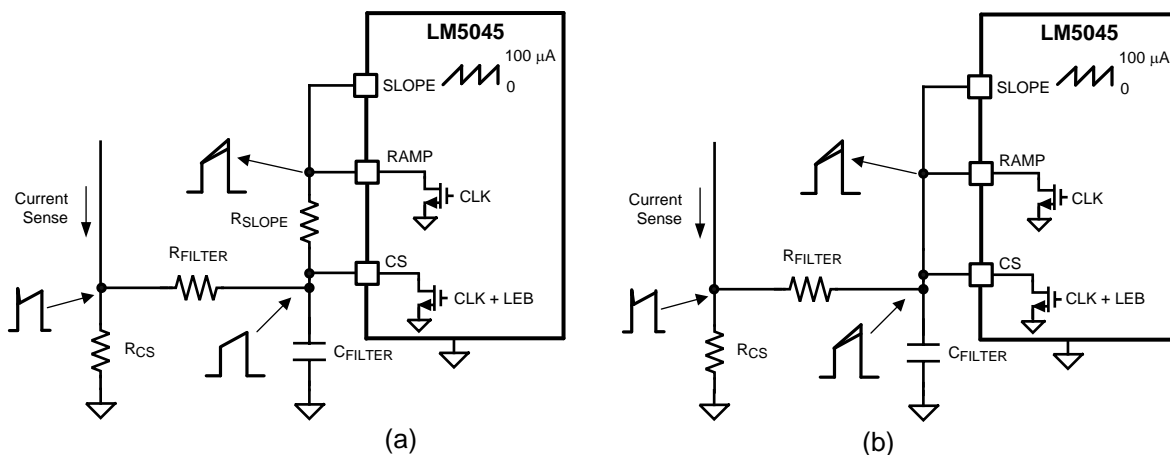

Figure 4. Slope Compensation Configuration
1) As shown in Figure 4(a), the SLOPE and RAMP pins can be connected together through an appropriate resistor to the CS pin. This configuration will inject current sense signal plus slope compensation to the RAMP pin but CS pin will not see any slope compensation. Therefore, in this scheme slope compensation will not affect the current limit.
2) In a second configuration, as shown in Figure 4(b), the SLOPE, RAMP and CS pins can be tied together. In this configuration the ramping current source from the SLOPE pin will flow through the filter resistor and filter capacitor, therefore both the CS pin and the RAMP pin will see the current sense signal plus the slope compensation ramp. In this scheme, the current limit is compensated by the slope compensation and the current limit onset point will vary.